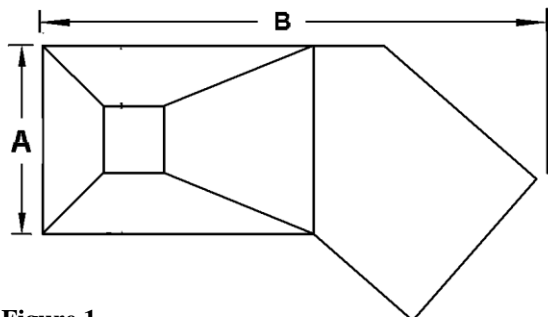

Figure 1
Referring to the illustration of your Lazy-L pool (Figure 1), be sure that the width (A) and the length (B) measurements are made at the bead receiver (where the liner snaps into the track), not at the edge of the coping (the edge of the